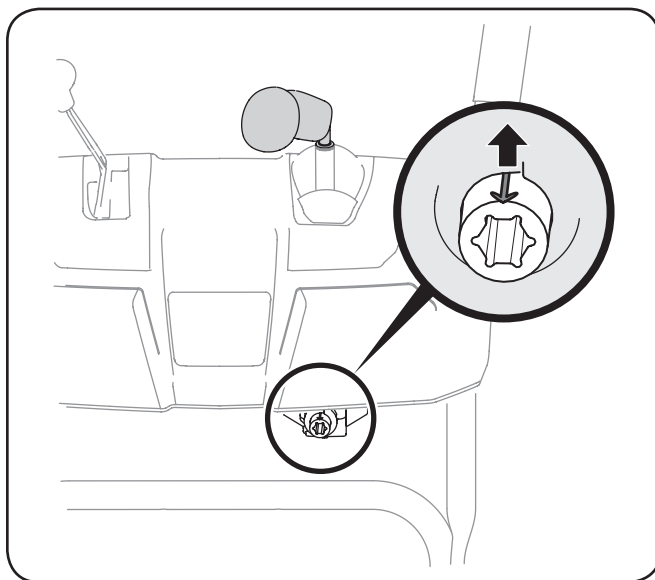

Figure 3-9
5. Rotate the joystick to 1 o'clock position so the arrow on the pinion gear faces upward. See Fig. 3-9).